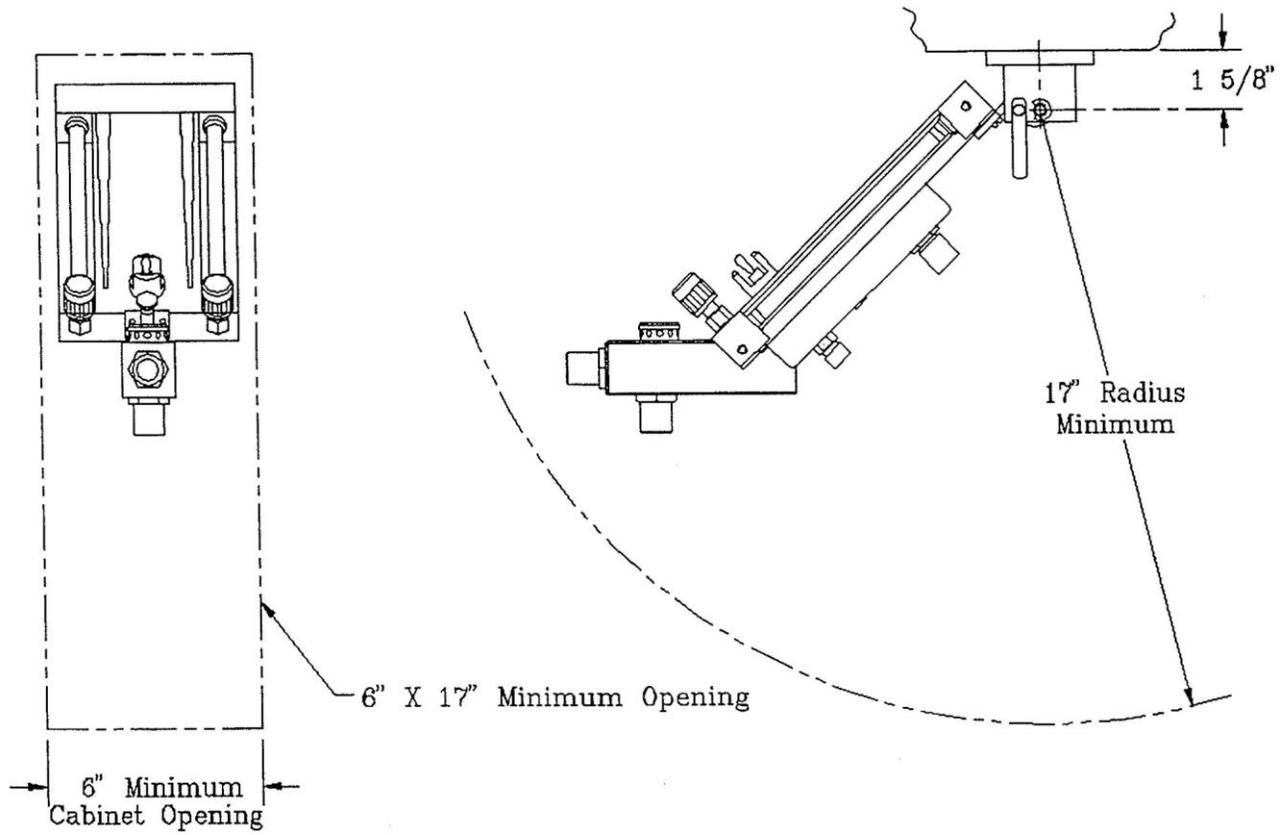

Figure 29
D. RA Cabinet Mounted (see fig 29)